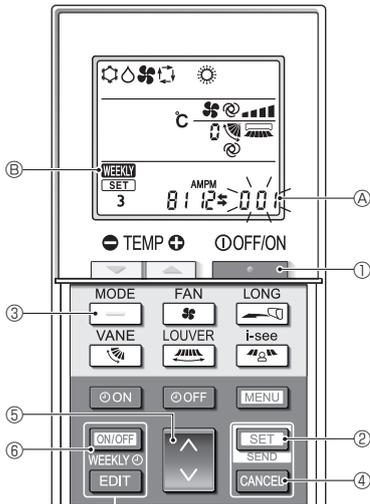

Fig. 6-7
6.8.8. How to disable Auto mode operation (Fig. 6-7)
1. Press the **STOP** button ① to stop the air conditioner.
- If the weekly timer is enabled, press the **ON/OFF WEEKLY** button ⑥ to disable the timer. (**WEEKLY** ⑥ disappears.)
2. Press the **SET** button ② for 5 seconds.
- The unit enters the function setting mode. (The group model setting number ④ blinks.)
3. Press the **UP** button ④.
4. Completing the settings (Fig. 6-7)